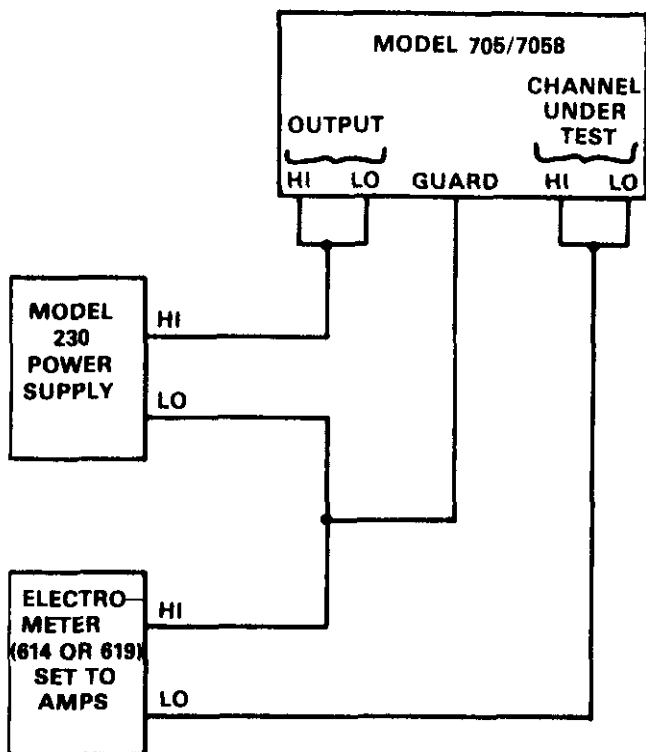

Figure 8. Channel Isolation Test Set Up
- A. This test measures the leakage resistance between two channels on the board. One channel is to be open and the other closed. Set up the test circuit shown in Figure 8.